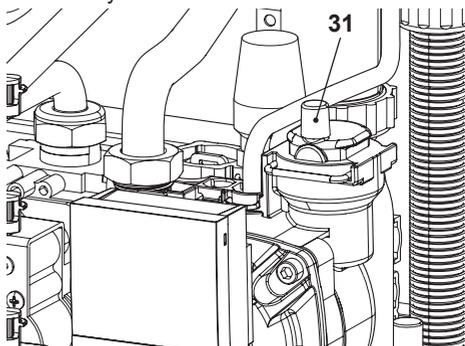

Fig. 7.2
- Unscrew the plug on the automatic air purger valve 31 in Fig. 7.2 and leave open permanently.